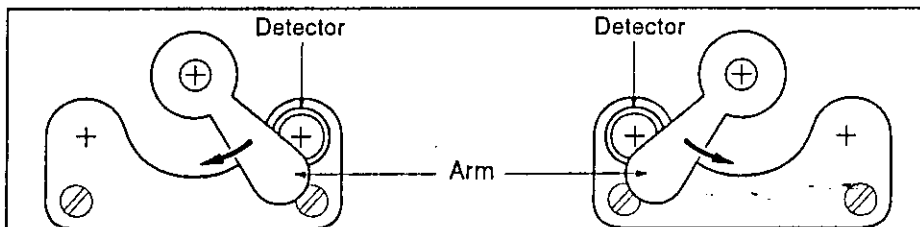

Figure 4—Position of the Arm on the 496-4 Model
2. According to the so defined rotating sense, the Figure 4 shows the positions of the detector on its bracket (right side or left) and arm when switching.